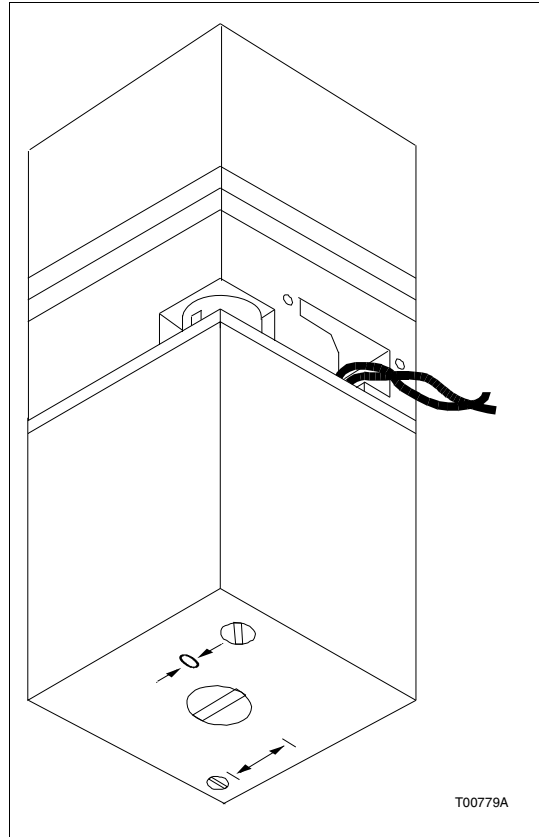

Figure 4-7. I/P Adjustment
4. Adjust the zero screw ( $\rightarrow 0 \leftarrow$ ) on the bottom of the I/P converter (Fig. 4-7) until the output pressure equals 20.7 kPa (3.0 psig). Clockwise rotation increases pressure.
6. Adjust the span screw ( $| \leftrightarrow |$ ) on the bottom of the I/P converter (Fig. 4-7) until the output pressure equals 103.4 kPa (15.0 psig). Clockwise rotation increases pressure.